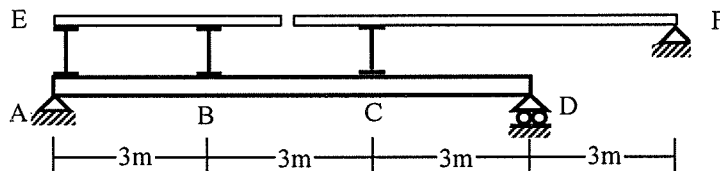

Fig.2
2. For the plate girder ABCD shown in *Fig.2*, draw the influence lines for R_A and V_{AB} , if unit load passes over the stringers (EF). [5]